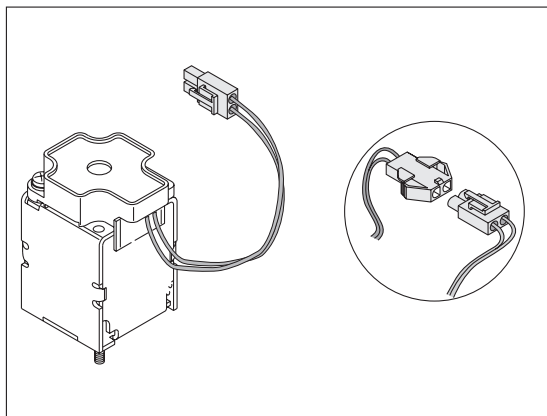

Fig. 4-7:
- ② Release the lock of the connector, and remove the connector (fig. 4-7).